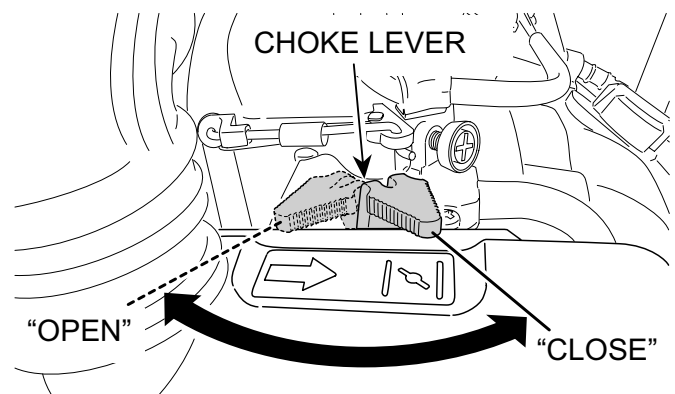

Figure 16. Choke Lever (Closed)
4. In cold weather, start the unit with choke lever "Fully Closed" (Figure 16). In warm weather or when the engine is warm, the unit can be started with choke halfway or completely open.
- If engine fails to start, move the choke lever (Figure 16) to the half open position to avoid flooding.